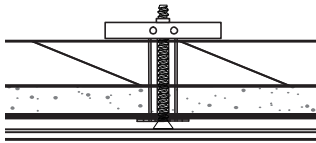

Fig. 6
- When a wood backer is available and is ¾" thick or greater – follow the guidelines shown in **Figure 6 & 7**.
- o If plywood backer is thinner than 3/4", use included Snaptoggle® hardware as shown in **Figure 6**.